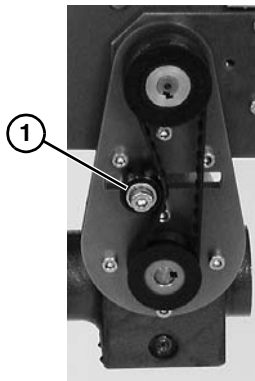

Figure 19
2. Loosen tensioner (Figure 19, item 1).